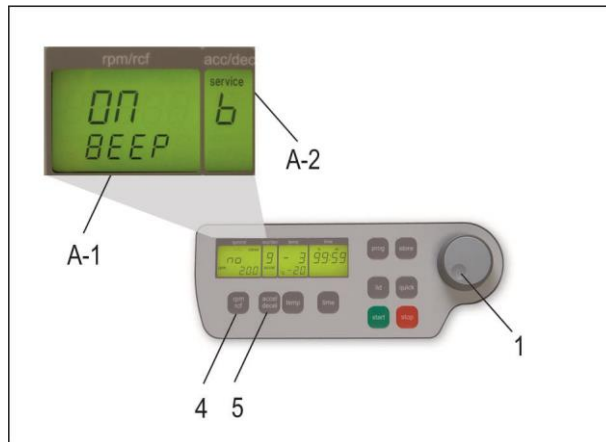

Figure 8
Proceed as illustrated, under point 1.8.1, to enter this program mode, press the key, "accel/decel" (5). In the display; "accel/decel" (A-2) flashes the word, "service". Select the letter, "b" with the adjustable knob (1). As a result, appearing in the display, "rpm/rcf" (A-1), the word "ON/BEEP". By pressing the key, "rpm/rcf" (4), the keyboard sound (On) or (Off) can be turned on, with the adjustable knob (1), (see Figure 8).